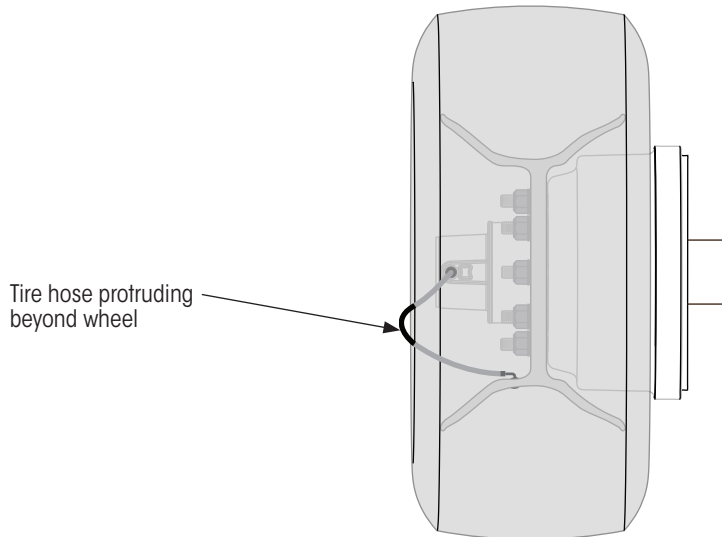
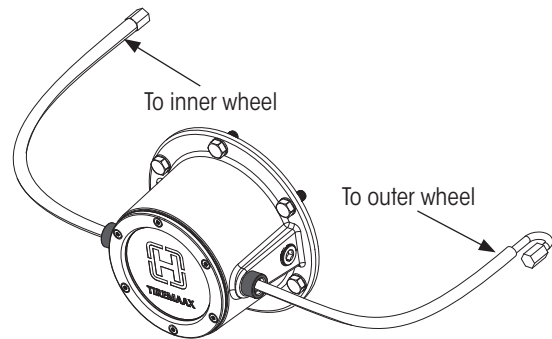
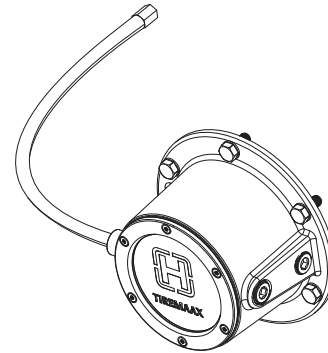

Figure 21: Improper tire hose installation (super single shown)
Figure 24: Dual tire hose to hubcap connection(s)
Figure 25: Super-single tire hose to hubcap connection
- Loosely connect** other end of tire hose(s) (Figure 24 for dual or Figure 25 for super-single) to the outlet port of the hubcap and check to ensure hose(s) meet criteria of Figure 21 and Figure 22.